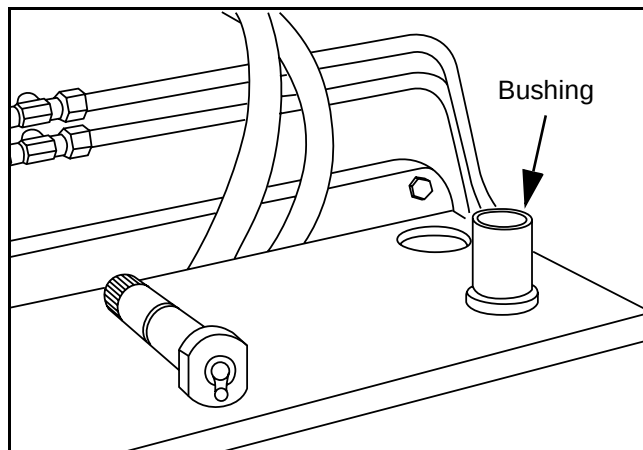

Figure 6 - 74 Remove bushing from tool
- 5) Remove the bushing from the bushing removal tool. (Figure 6 - 74)